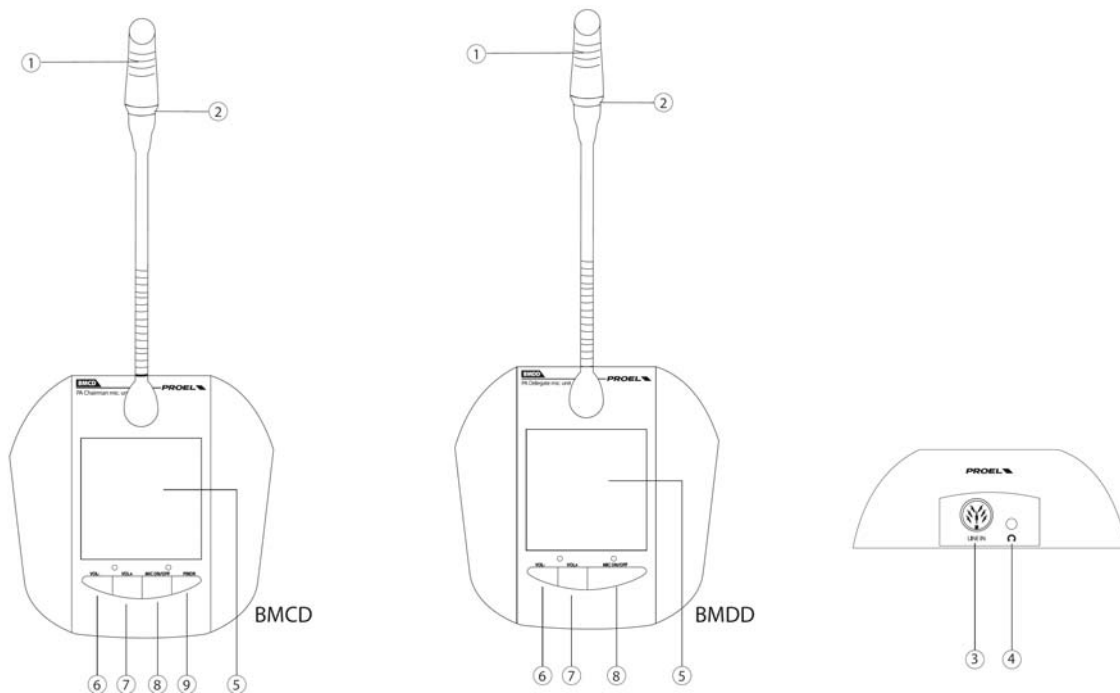

fig.3
Sets the audio level of the monitoring loudspeaker of the stations (figure 3 – ref. 5)
When this mode is selected, the display will read FIFO MODE (First In-First Out), plus the number of delegates who can speak simultaneously. In this mode, the CONF D keeps track of the order in which the delegate stations are activated. Once the preset limit of simultaneous delegates has been reached, and a new delegate presses the **MIC ON/OFF** key (**fig. 3 ref. 8**) on his microphone base, the FIRST station that was active when this limit was reached will be made inactive, and the new delegate station will be activated.
When the PRESIDENT presses the **PRIORITY** key (**fig. 3, ref. 9**), all DELEGATES will be excluded, and the DELEGATE microphones will not reactivate when their **MIC ON/OFF** key is pressed. These will remain excluded until the PRESIDENT again presses the **MIC ON/OFF** key.
When the PRESIDENT presses the **PRIORITY** key (**fig. 3, ref. 9**), all DELEGATES will be excluded, but the DELEGATE microphones will be reactivated normally when their **MIC ON/OFF** keys are pushed.
All activated DELEGATE stations will be automatically disactivated after 45 seconds of inactivity. In order to speak again the delegate will have to press MIC ON/OFF again (**fig. 3, ref. 8**)
When the PRESIDENT presses the **PRIORITY** button (fig. 3, ref. 9), the DELEGATE speaker monitors will reproduce a warning tone.
When the PRESIDENT presses the **PRIORITY** button (fig. 3, ref. 9), the DELEGATE speaker monitor will not produce a warning tone